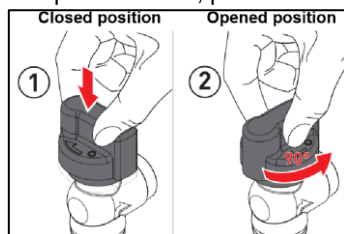

Fig. 5
- ✓ Make sure that the drain valve (Pag. 2 – Part Nr. 5) is closed. See "Drain Valve Operation - Fig. 5".
- ✓ Fill the tank with the recommended amount of water (L) (see Tab.1).